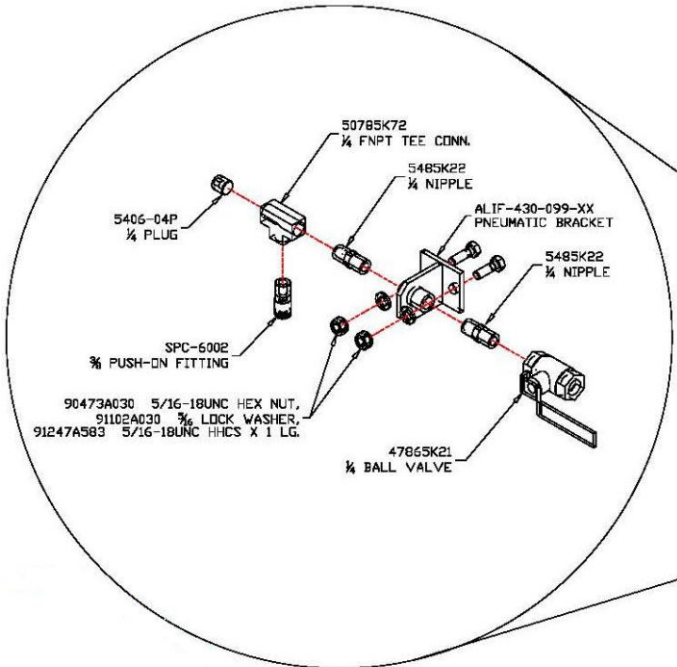
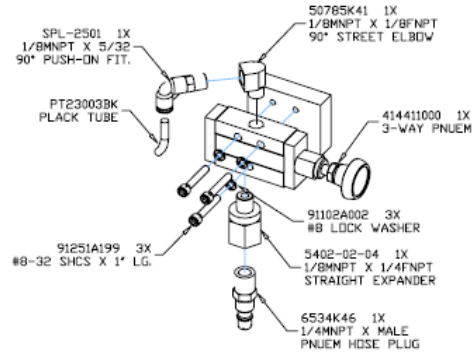

Figure 2
Figure 3
2. Attach the pneumatic bracket to the column using the provided 5/16-18 hardware. **NOTE:** The head of the bolt should be on the inside of the column, **Fig 3**.
3. Assemble the two 1/4" NPT nipples to the pneumatic bracket as shown in **Fig 2**.
5. Assemble the 1/4" NPT female tee and (2) 3/8" tube x 1/4" MNPT push fittings on the left side, **Fig 2**.
6. If lift has been installed according to the "Installation, Operation, & Maintenance" for Models 44030, 44030E, or 44030X, remove the 1/4" x Male pneumatic hose plug as shown below in **Fig. 3**.
9. Route 3/8" tube from the vertically positioned push fitting on the tee assembly shown in **Fig 2** to the angle or tube welded to the front crossbeam **Fig 3**.